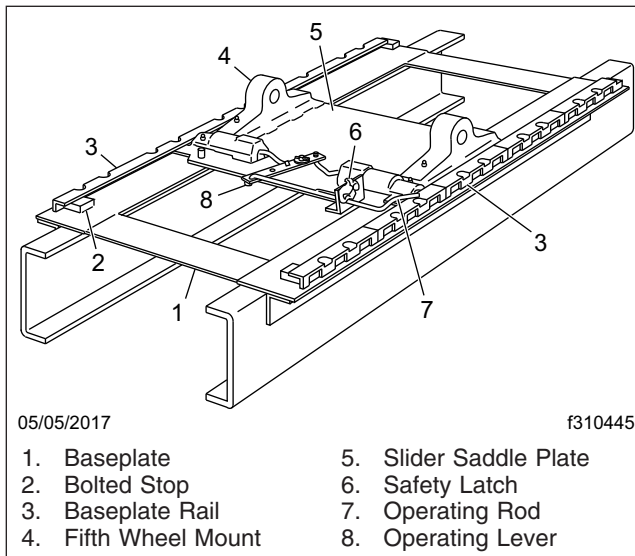

Fig. 17.13, Sliding Fifth Wheel Manual Release, Holland Simplex
- 2.2 **Holland:** Pull the operating rod out. Make sure both side plungers have released. See Fig. 17.13.